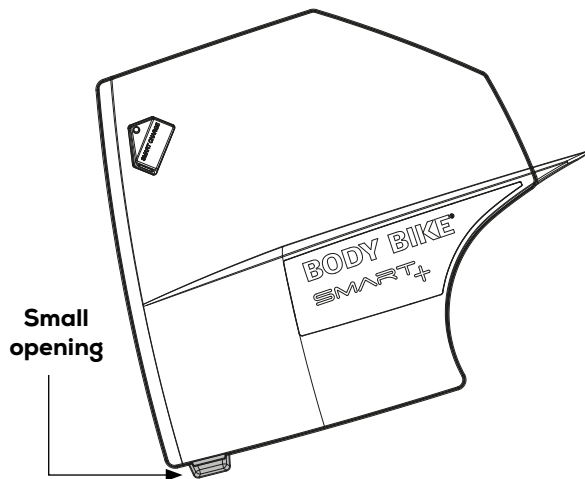

Figure 23
- 1) Open the service hatch as shown in figure 23.
- 1) Remove the service hatch. See figure 23.
6) Remove the service hatch. See figure 23.
Most maintenance and actions can be done through the service hatch. Pull out the service hatch in the small opening as shown in figure 23.
To get to the brake block, it is necessary to remove the service hatch. See figure 23.
1) Remove the service hatch on both sides of the cycle. See figure 23.